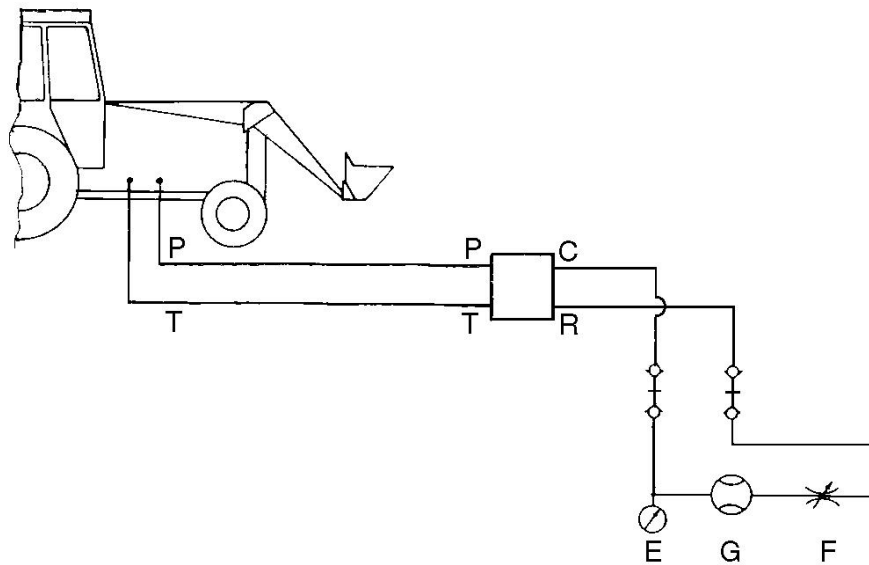

Fig. 3
Arrangement for setting up oil flow dividers	Fig. 3
1. Connect the test equipment to the oil flow divider as shown in Fig. 3.
2. Fully open the throttle valve (F) on the test equipment by turning it anticlockwise.
3. Fully open the flow regulator (B) of the oil flow divider by turning it anticlockwise.
5. Gradually close the throttle valve (F) on the test equipment until the pressure gauge (E) reads about 100 bar. If you cannot reach 100 bar by closing the throttle valve (F), adjust the pressure limiting valve (A) by turning it clockwise until the correct pressure is reached. Allow the oil to warm up to working temperature.
6. Fully close the throttle valve (F) by turning it slowly clockwise. While the throttle valve is being closed, check that the pressure does not rise above 160 bar. If it is, open the pressure limiting valve (A).
7. When the throttle valve (F) is completely closed, adjust the pressure to 150 bar with the pressure limiting valve (A).
8. Check the setting by opening the throttle valve (F) and then closing it. The flow meter (G) must not indicate a drop in the flow before a pressure of 130 bar is reached.
9. Adjust the throttle valve (F) until the pressure gauge (E) reads 100 bar. Adjust the flow with the flow regulator (B) on the oil flow divider to the flow stated in the table below for the relevant oil flow divider. The flow reading is taken from the flowmeter (G).
4. Gradually close the throttle valve (F) on the test equipment until the pressure gauge (E) reads about 100 bar. Allow the oil to warm up to working temperature.
5. Fully close the throttle valve (F) by turning it slowly clockwise.
6. When the throttle valve (F) is completely closed, the pressure reading on the pressure gauge (E) should be 150 bar. If necessary, adjust the pressure with the pressure limiting valve (A).
7. Adjust the throttle valve (F) until the pressure gauge (E) reads 100 bar. Take the flow reading from the flowmeter (G). The flow reading should be as stated in the table below for the relevant oil flow divider. If necessary, adjust the pressure with the flow regulator (B).